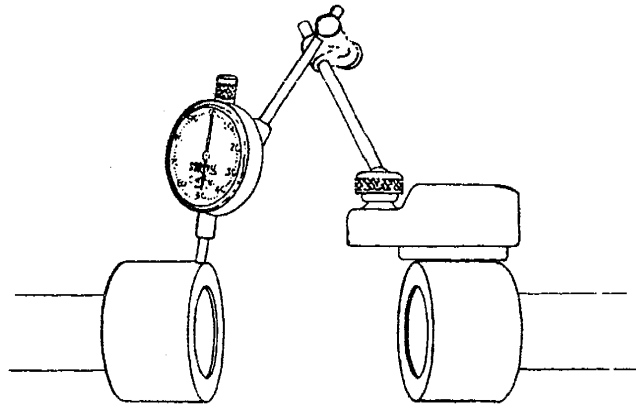

Figure 6
2. Align the unit to the elevation required using a dial indicator mounted on one machine and reading on the other (See Fig. 6). Turning both machines together, take four readings at points 90° apart. Shim the driver as necessary to satisfy the elevation requirement. The alignment is satisfactory when the machines are within .002" (.05 mm) TIR of the elevation requirement established in step one and within .002" (0.05 mm) TIR side to side.